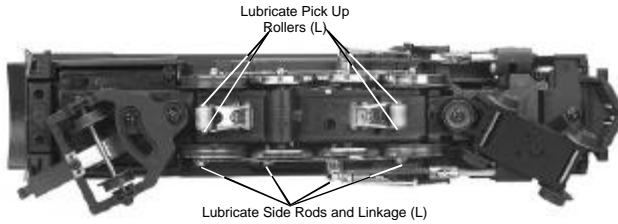

Figure 2. Lubrication Points on the Engine
3. You should lubricate all side rods and linkage components and pickup rollers to prevent them from squeaking. Use light household oil and follow the lubrication points marked “L” in Fig. 2 on pg. 10. Do not over-oil. Use only a drop or two on each pivot point.
You should regularly lubricate all side rods and linkage components and pickup rollers to prevent them from squeaking. Use light household oil and follow the lubrication points marked “L” in Fig. 2. Do not over oil. Use only a drop or two on each pivot point.